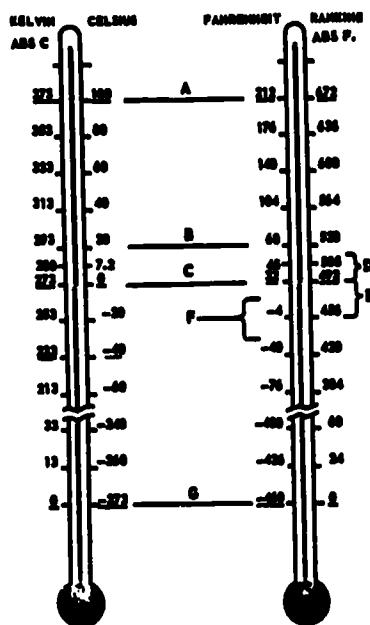

Fig 1-2. A comparison among Celsius, Fahrenheit, Kelvin and Rankine thermometer scales.
The last two scales are absolute scales and are used with very low temperature work such as cryogenics. Cryogenics refers to the use and creation of temperatures in the range of -157 degrees Celsius (C) down to -273 degrees Celsius, or -251 degrees Fahrenheit (F) down to -460 degrees Fahrenheit. You need to know only that the Kelvin and Rankine scales exist and are used in refrigeration. Refer to figure 1-2 for a comparison of the four temperature scales used in refrigeration work.